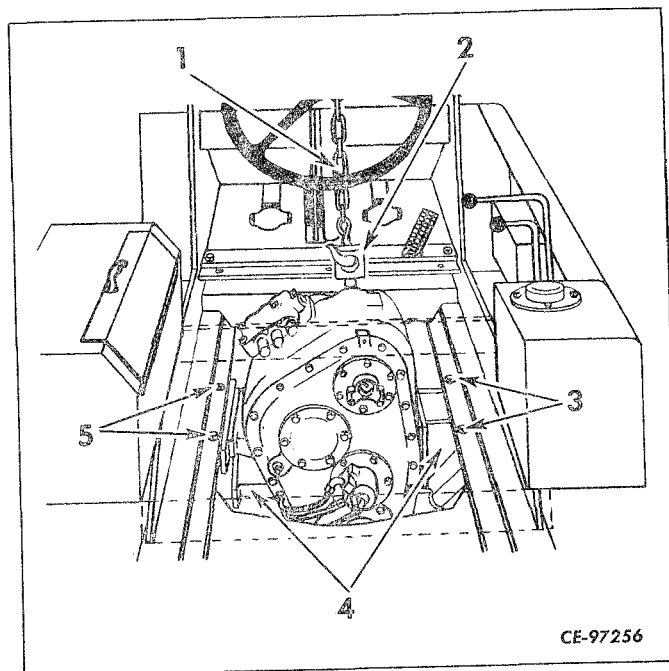

Figure 4-15
Install lifting eye (2, Fig. 4-15) in tapped hole on top of transmission. Attach chain hoist (1) to eye and take up slack. Disconnect right hand and left hand transmission mounts (4) at frame, by removing cap screws (5 and 3). Lower transmission from machine and move to disassembly area.